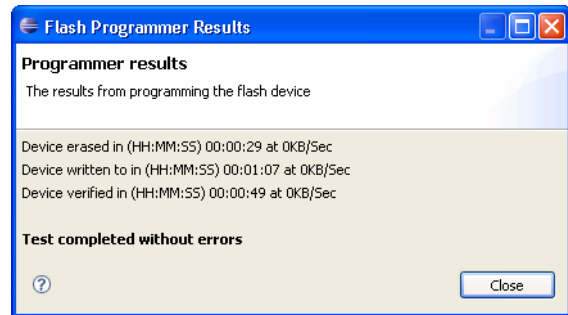

Figure 9 The tests results dialog
7. The **Flash Programmer Results** dialog opens when testing is complete (see Figure 9). The results indicate whether the tests passed or failed and the time taken to perform various operations.